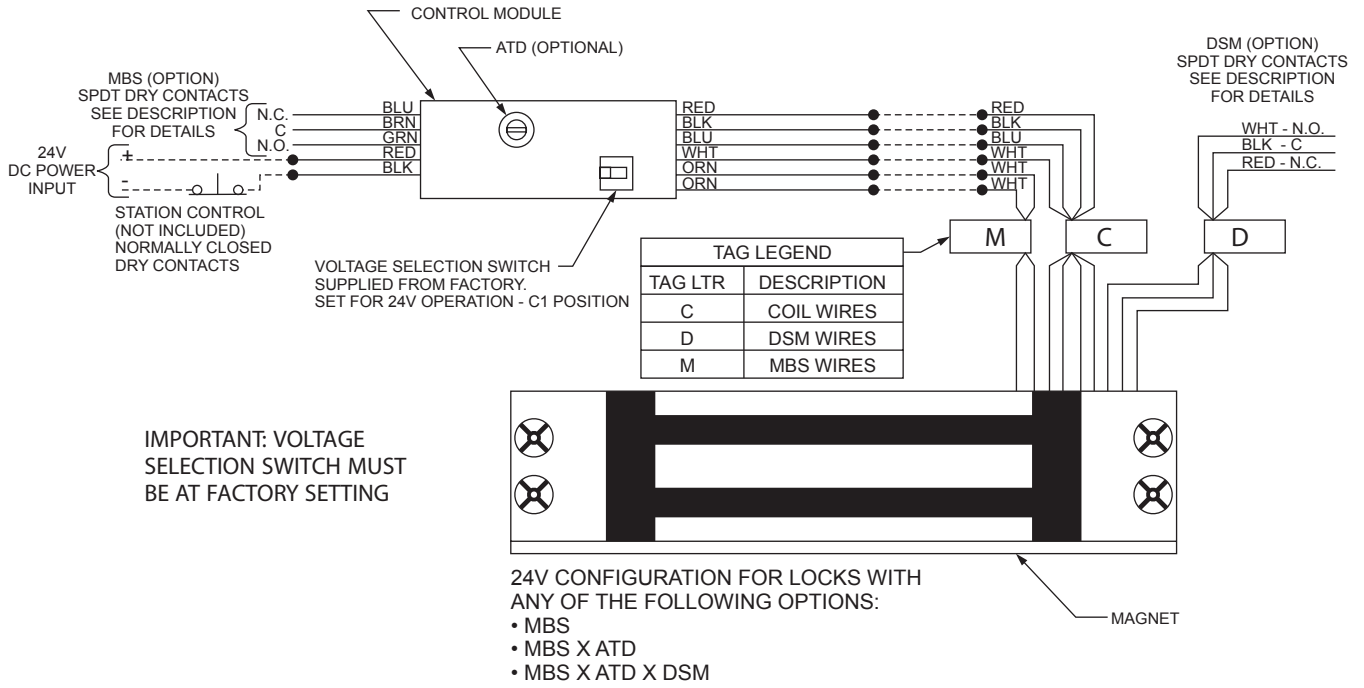

Figure 7
ATD can be set to delay relock from 0 to 30 seconds. To increase time, turn adjustment potentiometer clockwise (CW). To decrease time, turn adjustment potentiometer counterclockwise (CCW). ATD will operate whenever input power is interrupted and then reapplied. For potentiometer location, see Figures 7, 8 and 10.